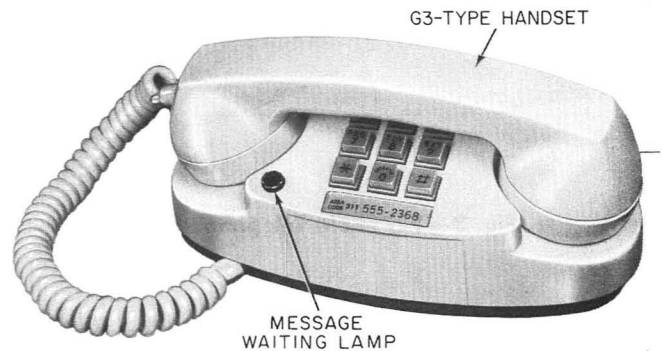

Fig. 1—2702D (MD) Telephone Set
2.01 The 2702D (MD) or 2702DM (MD) telephone set (Fig. 1 or 2) is equipped with a message waiting lamp and is intended for PBX use.
- **Message Waiting Lamp:** 2702D (MD) or DM (MD) set—visual signal, under control of a PBX attendant, indicates a message has been left with the operator (Fig. 1 or 2).
- **Line and Signal Key:** 2713B (MD) or BM